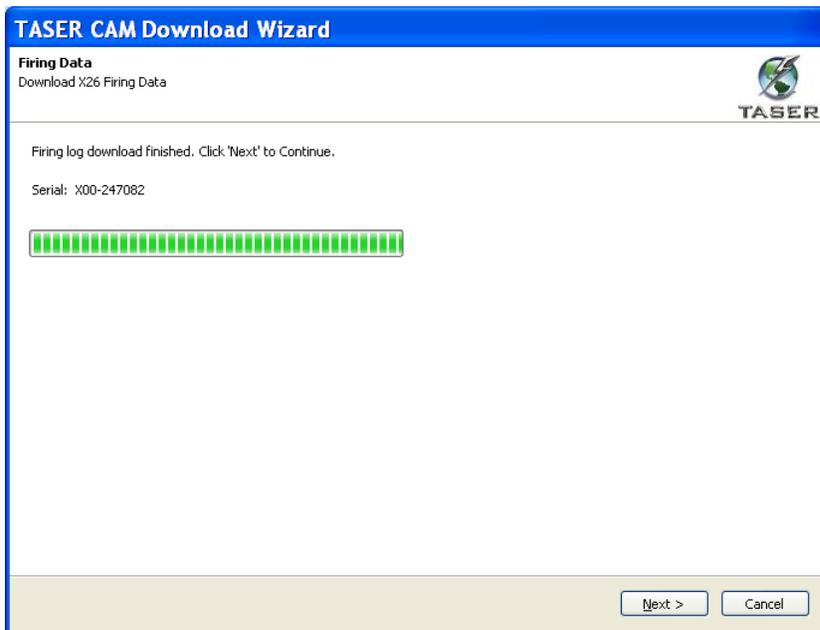
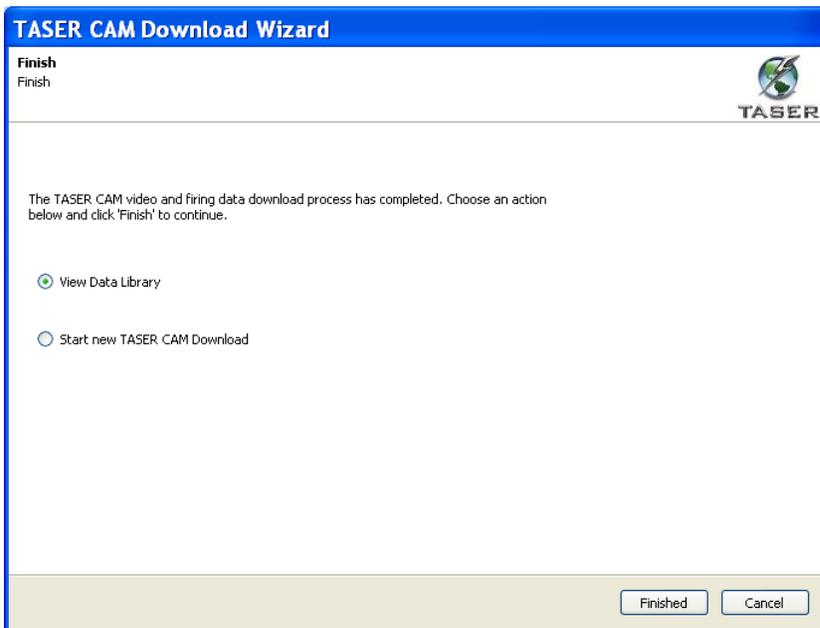

Figure 20
Figure 21
12. After the incidents and firing records have been downloaded, click **Next** (Figure 20). You can view the data library (lists all the video and firing records that have been downloaded to the PC) or download another TASER CAM recorder and/or X26 device (Figure 21).